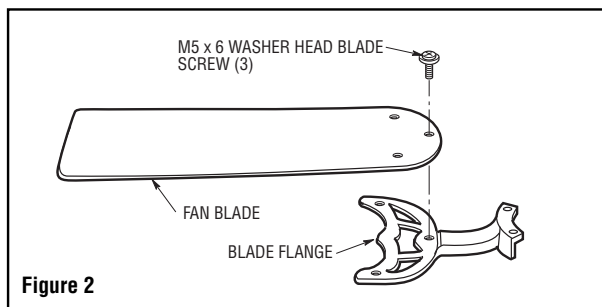

Figure 2
6. Mount the blade flanges to fan blades using three M5 x 6 washer head blade screws per blade (Figure 2).